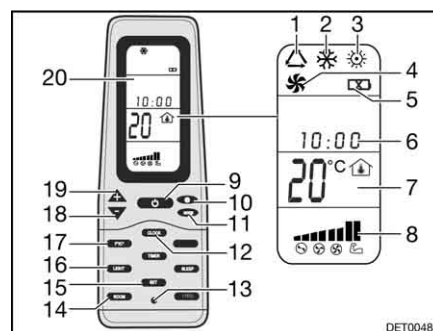

Fig. 172 Remote control
- Press the ON/OFF button (Fig. 172,9).
- Press the "Mode" button (Fig. 172,11) as often as required until the required mode (Fig. 172,1, 2, 3 or 4) is indicated on the display (Fig. 172,20).
- Use the "+" (Fig. 172,19) and "-" (Fig. 172,18) buttons to set the desired temperature.
- Use the fan speed button (Fig. 172,10) to select the desired fan level.